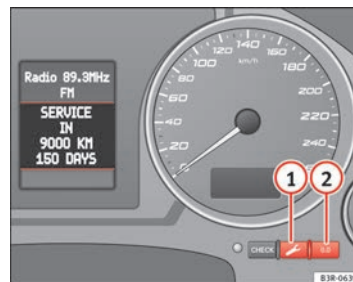

Fig. 52 Detailed view of the instrument panel: Service indicator
- Press the service button ⇒ Fig. 52 ① and hold while switching on the ignition. The display will show one of these messages: **Service in ----- km Service!**
- Now press and hold the reset button ② until the display shows **Service in ----- km --- days or Service!**